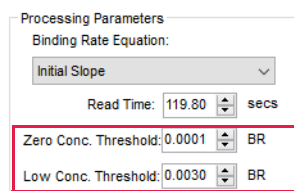

Figure 10-22: Setting Read Time, Zero Conc. Threshold and Low Conc. Threshold
2. Set the **Read Time** (Figure 10-22). This represents the duration of binding data to be included in the analysis. Type in a number or use the up/down arrows next to each cell.
3. Set the **Zero Conc. Threshold** (Figure 10-22). Binding rates that are less than the zero concentration threshold are considered zero. Type in a number or use the up/down arrows next to each cell.
4. Set the **Low Conc. Threshold** (Figure 10-22). Used with the Initial Slope Binding Rate Equation, the low concentration threshold acts as a filter for low binding responses. The binding curve is fitted with a linear regression. If the slope of the linear fit is less than the low concentration threshold, then the linear slope is reported as the binding rate in the results table. Changing this threshold can improve the precision of low concentration samples. Type in a number or use the up/down arrows next to the value.